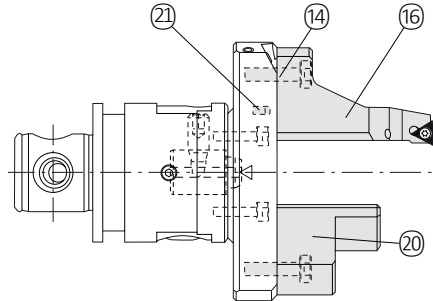

Fig. 6
**Insert holder for outside turning and counter weight (Fig. 6)**